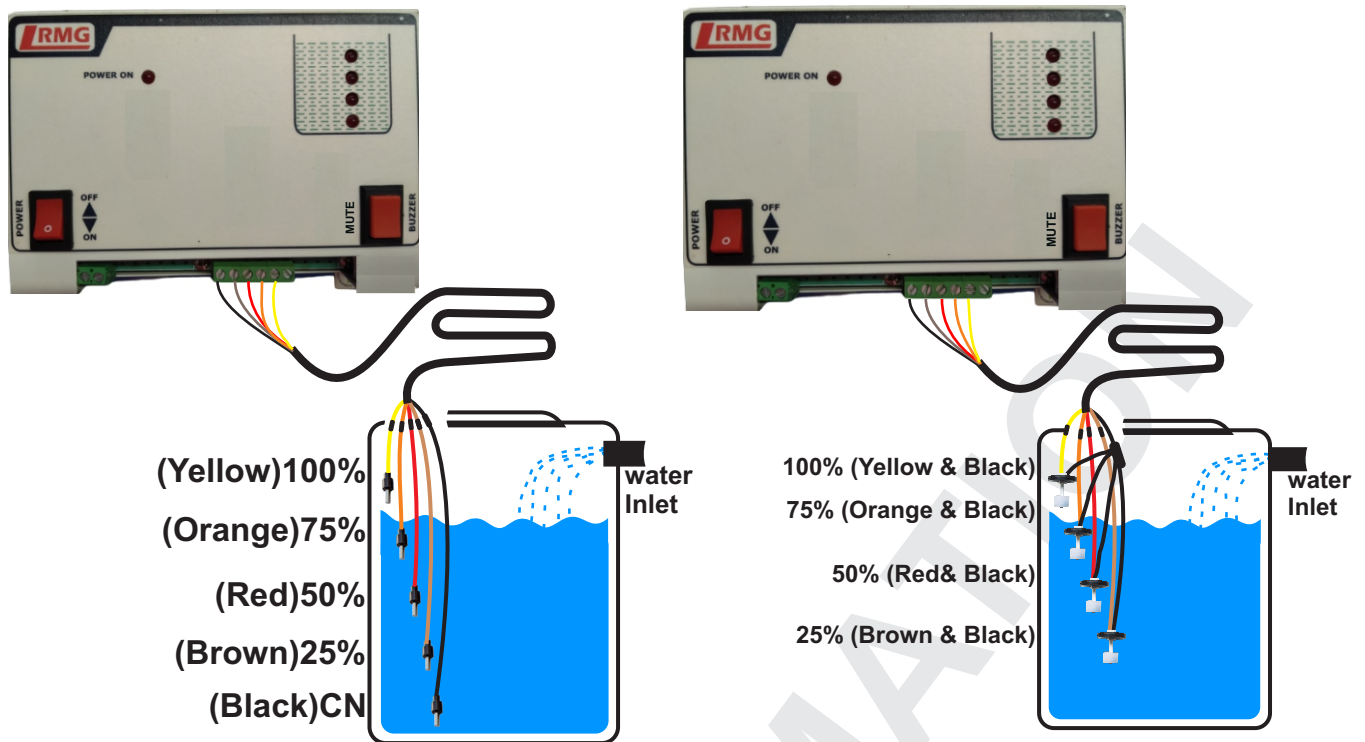

Figure2: Contact type sensor connection Figure3: Magnetic float sensor connection
Step 3: Lay 6 core cable between indicator and tank. Join one end of the 6 core cable to sensor line of the indicator. In tank side, **Contact type sensor connection:** Take the sensors and cut them according to the levels of tank and join them with the 6 core cable as per label coded. (Refer figure.2). **Magnetic float sensor connections:** These sensor has 2 wires. Use any one wire in each sensor as common. Other wires left in each can be used for levels. Join them with 6 core cable as per label coded. (Refer figure.3)